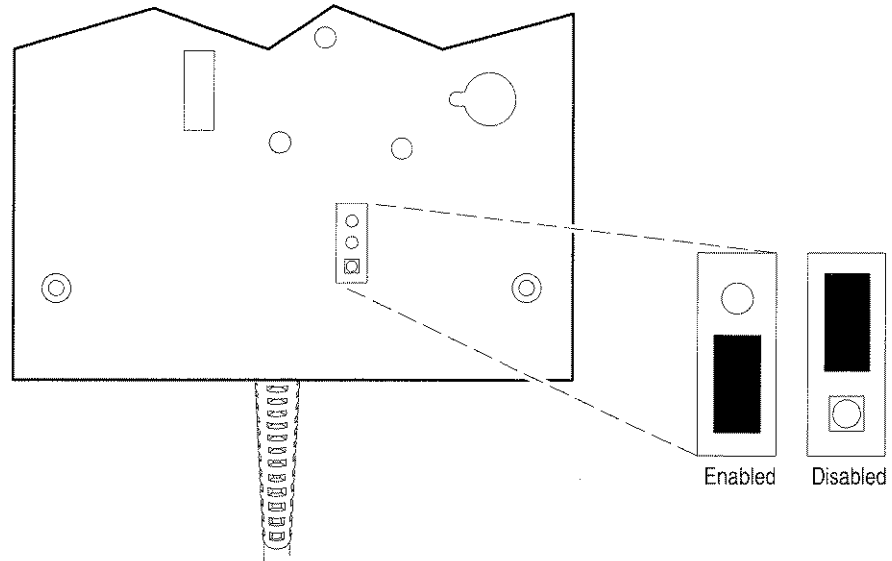

Figure 1: Configuration Jumper for Scale Factor Coding
TDS 400A. The TDS 400A Series oscilloscopes are compatible with the scale factor coding of the ADA400A Differential Preamplifier. The factory configures the internal jumper to connect the scale factor coding. See Figure 1.
2. Identify the jumper on the data line (See Figure 1) and position the jumper to disable the scale factor coding.